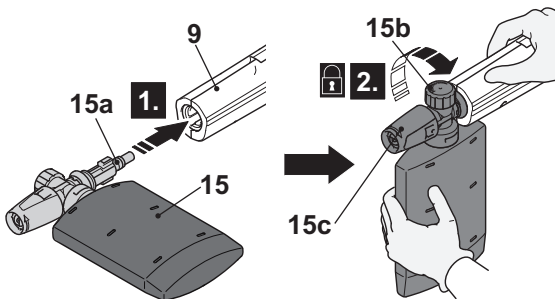

Fig. 15
2. Align and insert the tongues (15a) of the soap tank (15) with the grooves of the spray gun (9) connection port (Fig. 15, step 1).